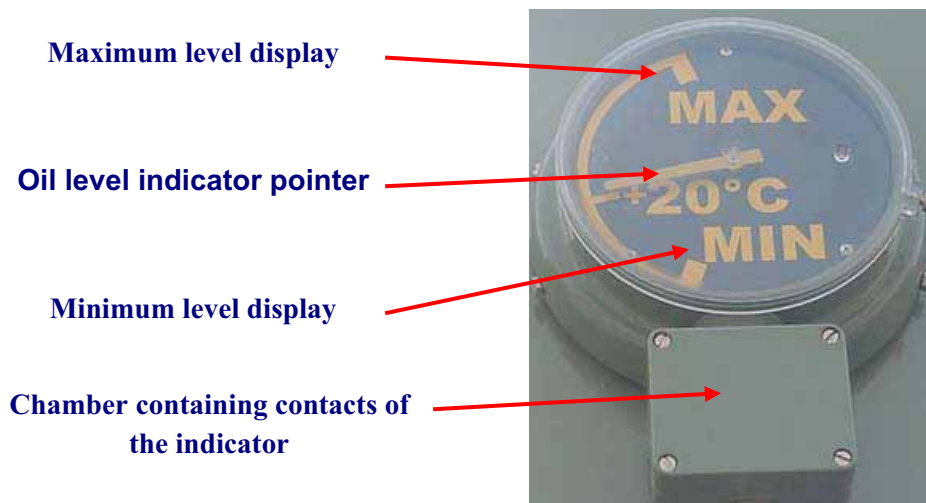

Figure 7 : Different parts of Oil Level Indicator
- **With contacts (see Figure 7)**